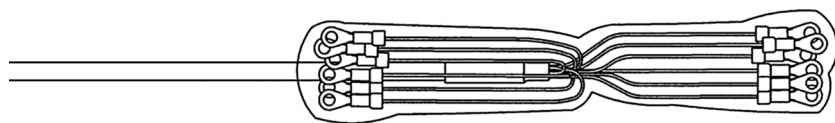

Figure 9 **Sensor Cable Installation**
10. At the end of the sensor cable with ring lugs, take about half of the individual wire and fold it back. See Figure 9 on page 25.